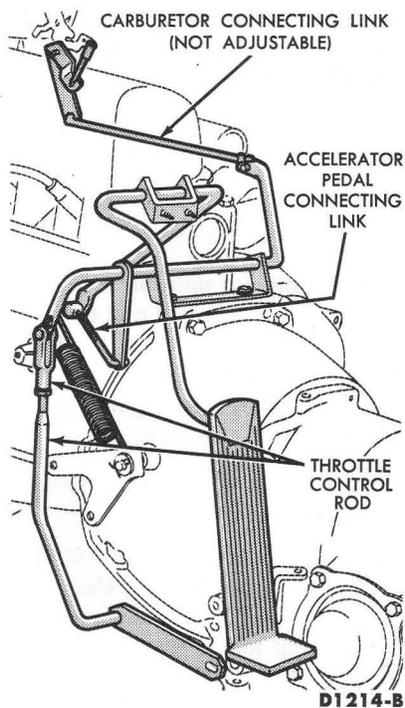

FIG. 2—Throttle Linkage
connect the throttle control rod at its clevis end (Fig. 2). Loosen the clevis locknut.
6. **Perform the pressure test quickly to avoid overheating the transmission.** Increase the engine speed to 1200 rpm and note the gauge reading. If the pressure reading is below specification (Table 1, Part 6-3), the throttle control rod clevis must be rotated to shorten the rod (Fig. 2). If the pressure reading is more than specification, the clevis must be rotated to lengthen the rod.